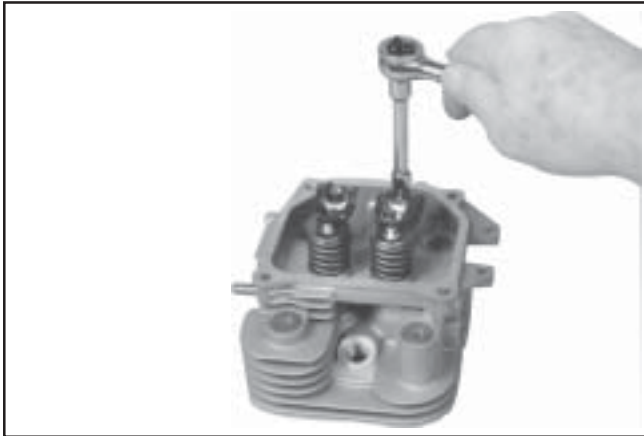

Figure 9-45. Removing Rocker Arm.
1. Remove the two hex flange screws, rocker arm pivots and rocker arms from the cylinder head. See Figure 9-45.